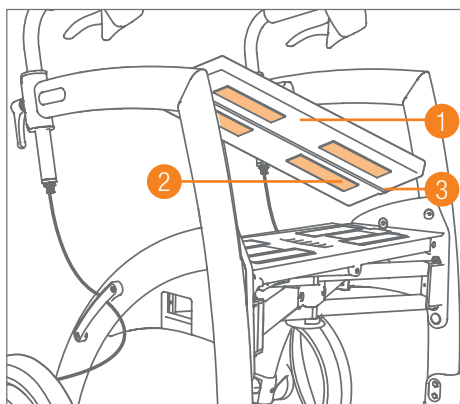

Figure 55: Removing the seat cushion from the rollator.
- a.** Pull the Velcro on the cover of the cushion off from the seat (**Figure 55**).